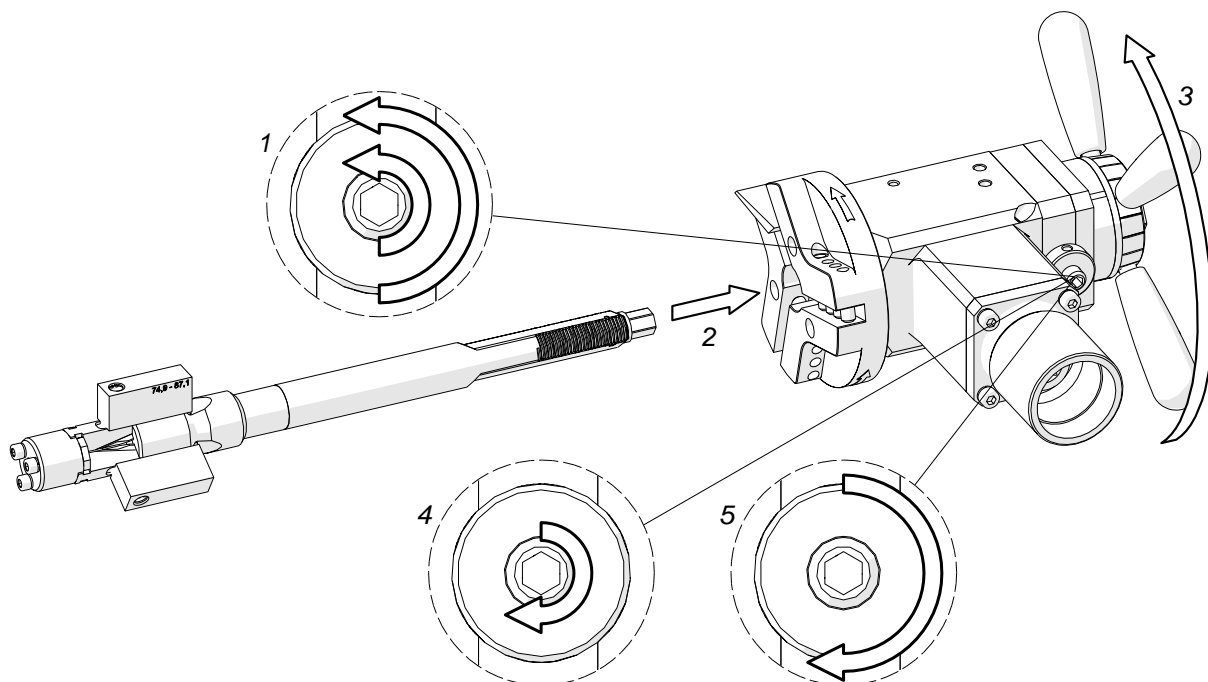

Fig. 3. Installing the mandrel into the machine
Loosen the nut and use the 6 mm hex wrench to loosen the set screw (1, Fig. 3), and put the mandrel into the machine (2). Make sure that tool bits installed are not in contact with the mandrel. Next, rotate the handles to the right (3) by at least 10 turns until the mandrel engages with the machine fully. Tighten the set screw (4) and check if you can easily rotate the handles in both directions. If the screw is too tight, loosen it lightly. Finally, tighten the lock nut (5).
To remove the mandrel, loosen the nut and use the 6 mm hex wrench to loosen the set screw (1, Fig. 3) by at least one turn. Then, rotate the handles to the left to remove the mandrel.